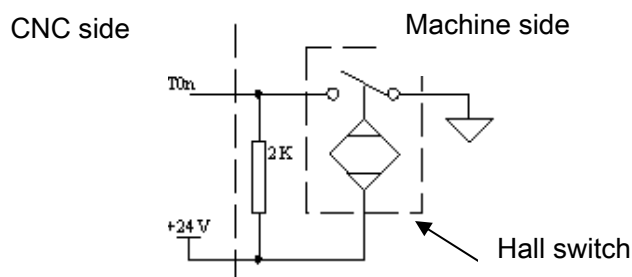

Fig. 2-37
- The external circuit of the tool number signal is shown in Fig. 2-37, when the tool number signal is low level active, it requires an external pull-up resistor.